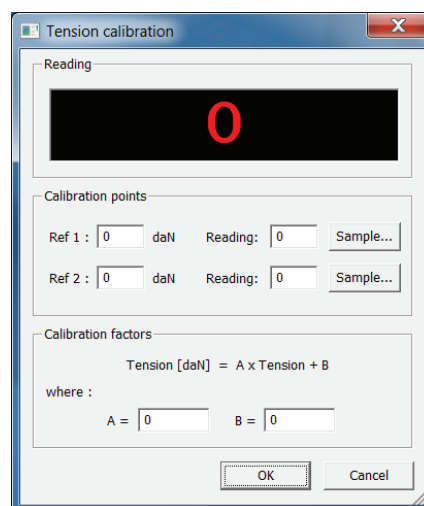

Figure 4-7 Tension calibration page
- Click on **“Calibrate”** to access to the tension calibration page (Figure 4-7)
Enter a value of 0 into the **Ref 1** edit box (Figure 4-7). Click on the **Sample** button to update the **Reading** box with a value measured by the system.